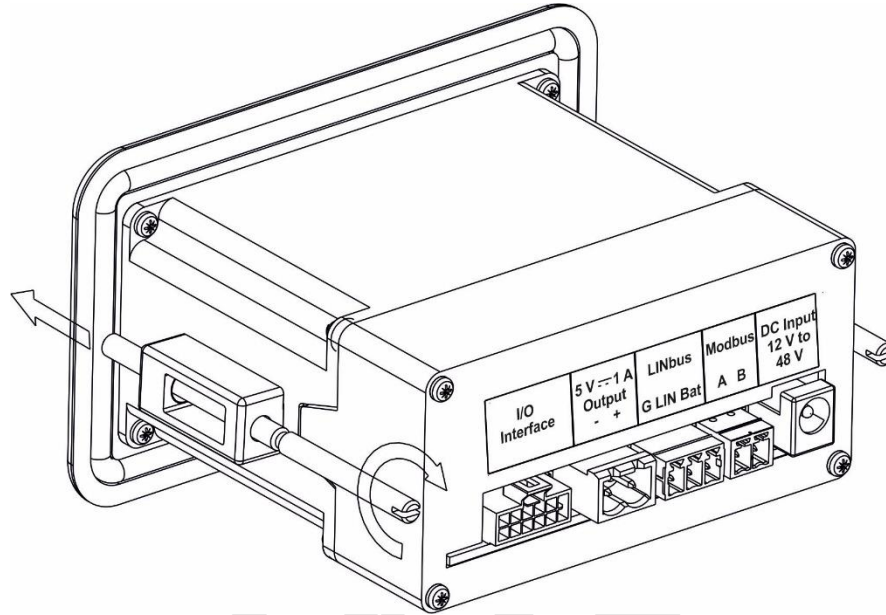

Figure 4 Panel mounting using Clamps for Integrating the Data logger with Equipment
- The data logger is fitted with the Appliance using two clamps fixing on the both sides of the data logger with the panel as shown in the figure 4.